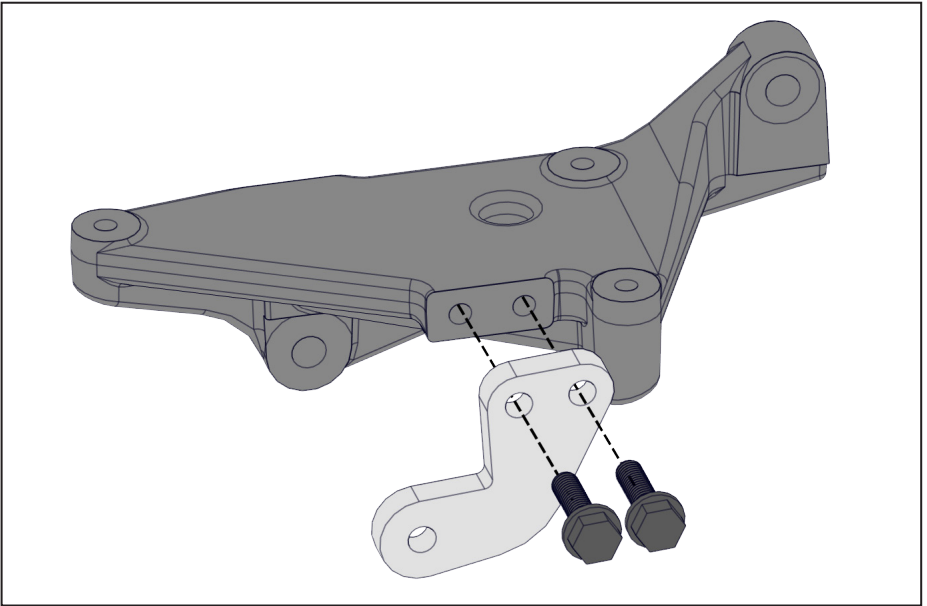

Figure 9 — Installing the rear bracket
- Install the smaller rear bracket onto the main bracket using the (x2) M8 × 1.25 × 30 mm fasteners (Figure 9).